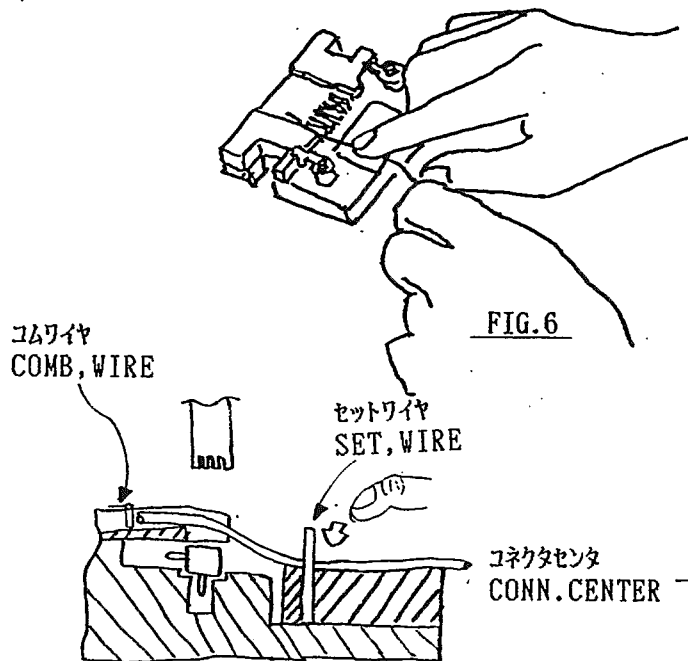

FIG. 7
- 4) Set wires into grooves of the wire comb first and into the set wire as FIG.7. Make sure wire center aligned conn.center.